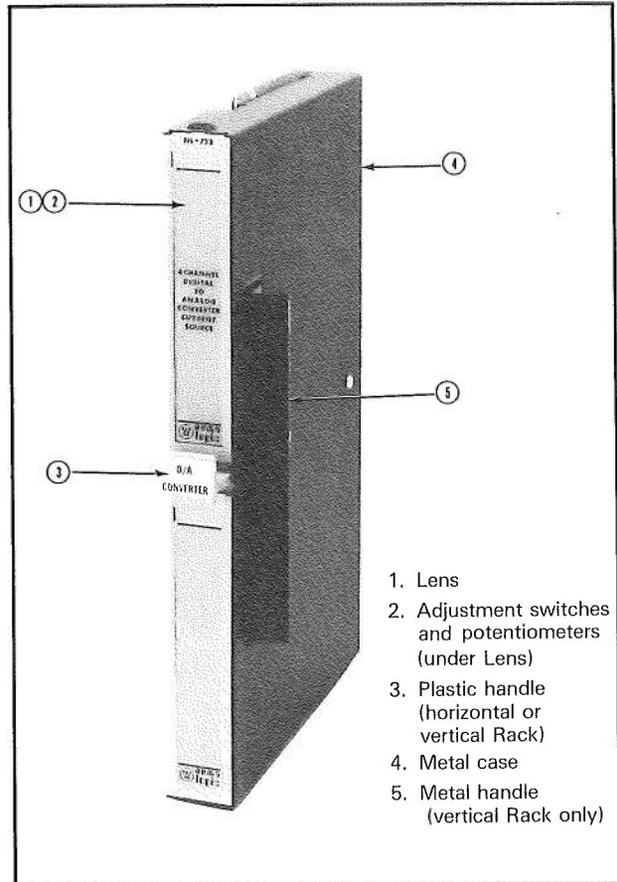

Figure 1 — 4-Channel Digital-to-Analog Output Module
**Step 1** — Screw the metal pull handle onto the side of the Module. If desired, the plastic pull handle may also be installed between the Module Lenses. Fix the color-coded adhesive label to the front of the plastic pull handle (See Figure 1.)
**Step 1** — Slide the plastic pull handle into the slot between the Lenses on the front of the Module. Fix the color-coded adhesive label to the front of the plastic pull handle. (Do not install the metal pull handle — it is designed for use with the Vertical I/O Rack only.) See Figure 1.